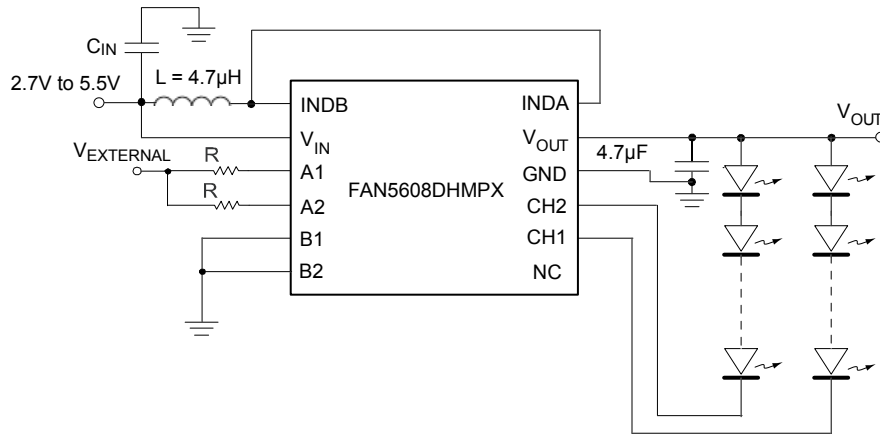

Figure 4. FAN5608 Analog Brightness Circuit
In Analog Mode, B1 and B2 inputs should be connected to GND or "0" logic. A1 and A2 control the LED current through an external resistor (R), as shown in Figure 4, or an external voltage (V_{EXT}) input.